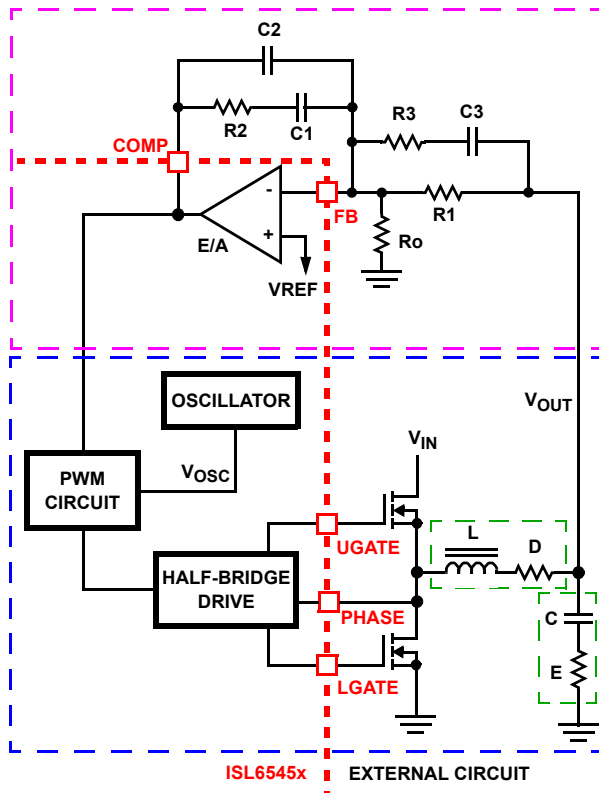

FIGURE 9. VOLTAGE-MODE BUCK CONVERTER COMPENSATION DESIGN
This section highlights the design consideration for a voltage-mode controller requiring external compensation. To address a broad range of applications, a type-3 feedback network is recommended, as shown in the top part of Figure 9.
Figure 9 also highlights the voltage-mode control loop for a synchronous-rectified buck converter, applicable to the ISL6545x circuit. The output voltage (V_{OUT}) is regulated to the reference voltage, V_{REF} . The error amplifier output (COMP pin voltage) is compared with the oscillator (OSC) modified sawtooth wave to provide a pulse-width modulated wave with an amplitude of V_{IN} at the PHASE node. The PWM wave is smoothed by the output filter (L and C). The output filter capacitor bank's equivalent series resistance is represented by the series resistor E .
The compensation network consists of the error amplifier (internal to the ISL6545x) and the external R1-R3, C1-C3 components. The goal of the compensation network is to provide a closed loop transfer function with high 0dB crossing frequency (F_0 ; typically 0.1 to 0.3 of F_{SW}) and adequate phase margin (better than 45°). Phase margin is the difference between the closed loop phase at F_{0dB} and 180° . The equations that follow relate the compensation network's poles, zeros and gain to the components (R1, R2, R3, C1, C2, and C3) in Figure 9. Use the following guidelines for locating the poles and zeros of the compensation network:
1. Select a value for R1 (1k Ω to 5k Ω , typically). Calculate value for R2 for desired converter bandwidth (F_0). If setting the output voltage via an offset resistor connected to the FB pin, Ro in Figure 9, the design procedure can be followed as presented.